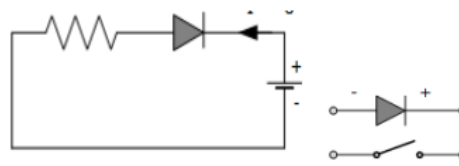

Fig. 2: Reverse Bias Condition
**(B) REVERSE BIAS CONDITION:**
1. Connect the circuit as shown in Fig.2 (Point contact diode in series with micro ammeter).